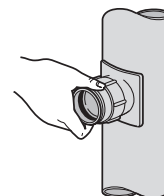

Fig.25a Test fitting boss
**Step 4** – Insert boss into hole. Ensure keyway is last piece to enter hole (Fig.25a)